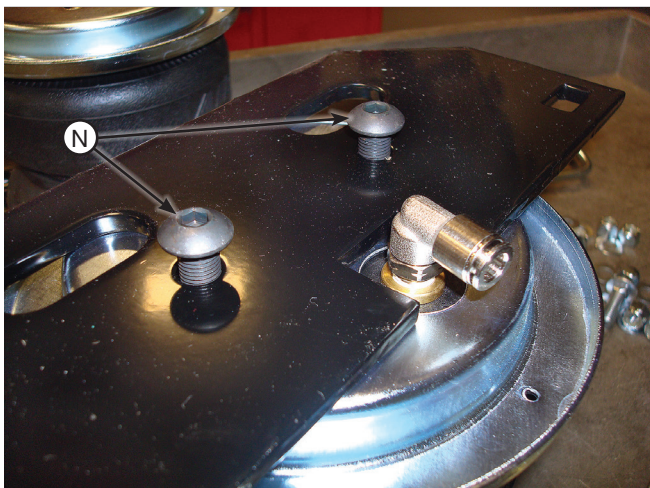

Fig. 8
2. Install the upper air spring brackets (C) onto the air spring assemblies with the 3/8"-24 x 7/8" button head cap screws (N) (Fig. 8) and torque to no more than 20 lb.-ft. (27Nm).